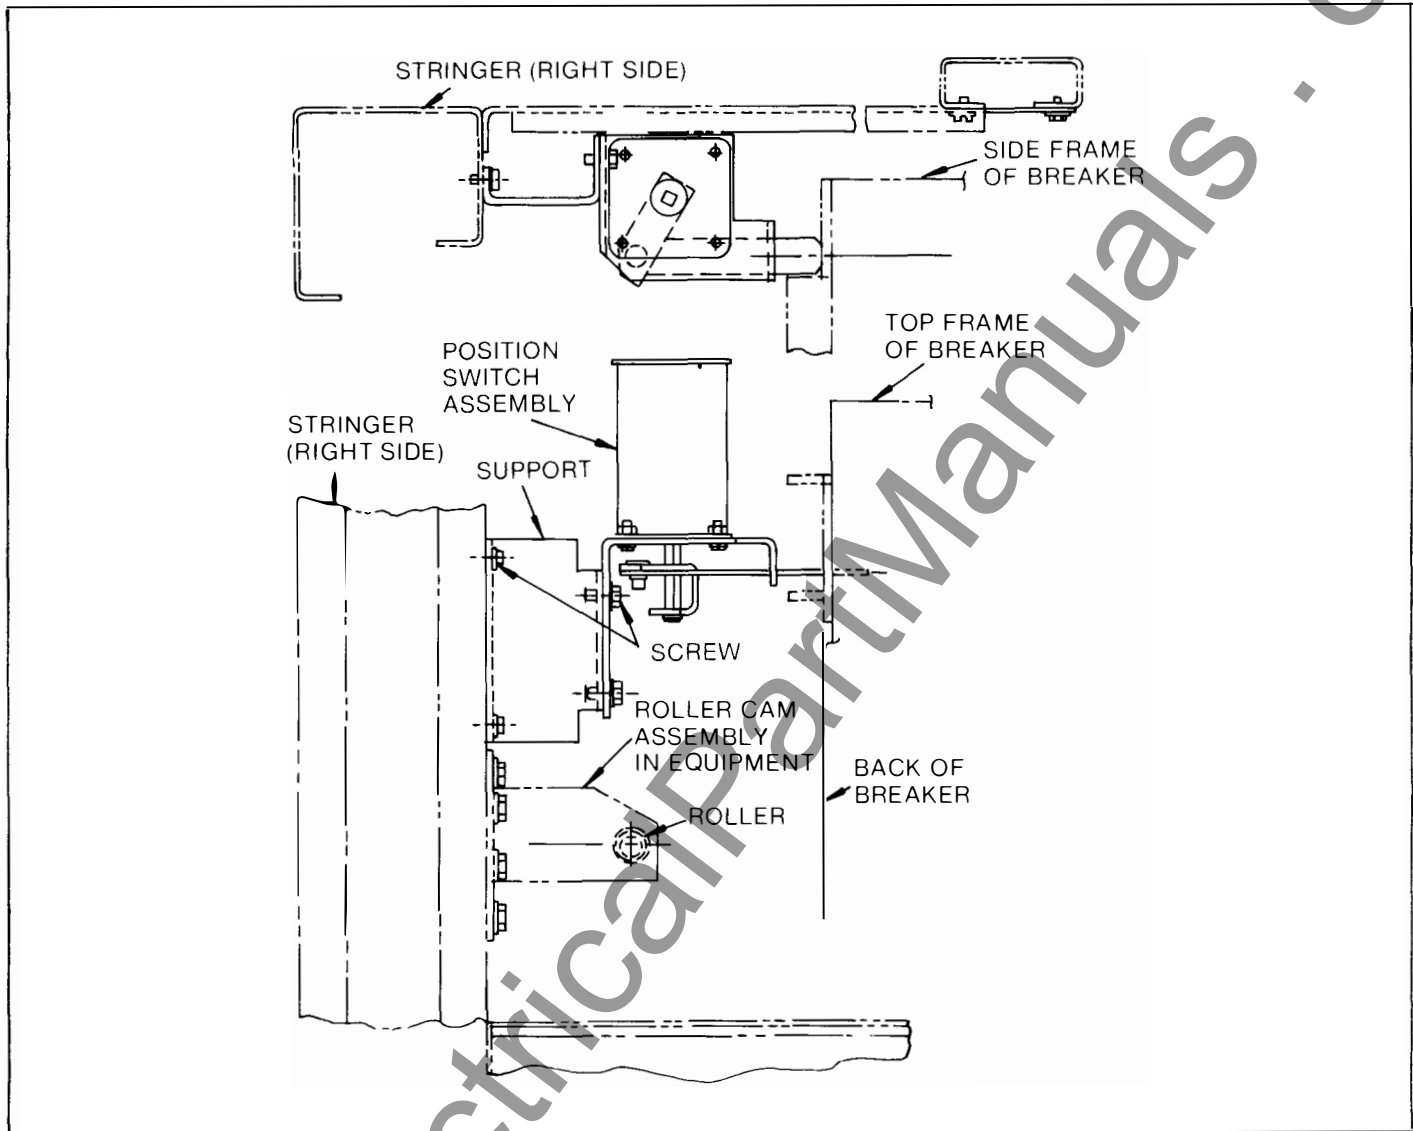

Fig. 7-10. Position switch assembly (AKR-75/100 breakers)
**NOTE:** If the compartment contains a position switch (Fig. 7-10), it must be moved slightly to allow the frame to be taken out. To do this, remove two ¼-inch hex head screws which hold the position switch mounting bracket to the right stringer of the compartment. It is not necessary to disconnect the wiring. The switch and its bracket can be moved enough to clear the shutter frame as it is removed.